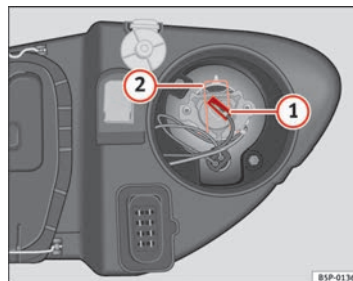

Fig. 183 Main beam headlights
- Remove the connector ⇒ fig. 183 ① from the bulb.
- Press the spring ⇒ fig. 183 ② inwards and to the right.